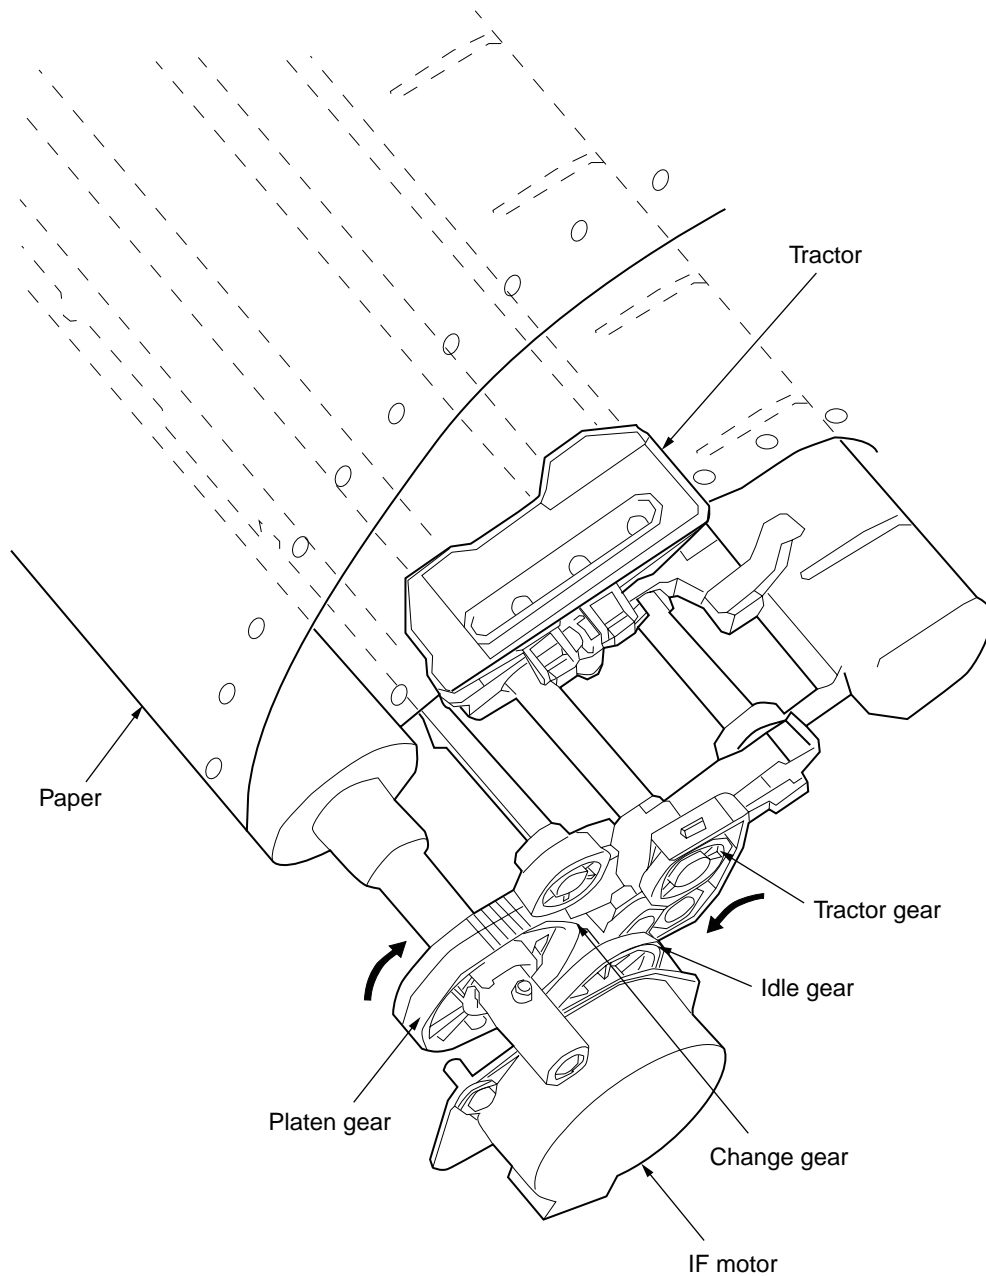

Figure 8
(3) Continuous paper feed operation (Rear) (See Figure 8.)